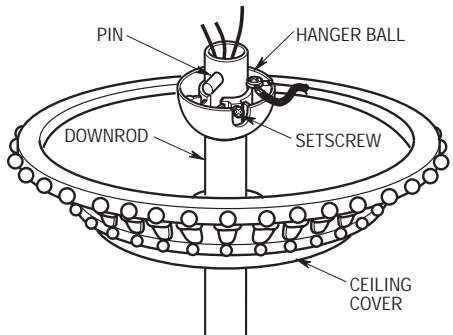

Figure 10
- 18. Place the ceiling cover over the downrod. Then reinstall the hanger ball (Figure 10) on the downrod as follows. Route the three 80" motor leads through the hanger ball and slide the hanger ball over the downrod. Position the pin through the two holes in the downrod and align the hanger ball so the pin is captured in the groove in the top of the hanger ball. Pull the hanger ball up tight against the pin and securely tighten the setscrew in the hanger ball. A loose setscrew could create fan wobble.